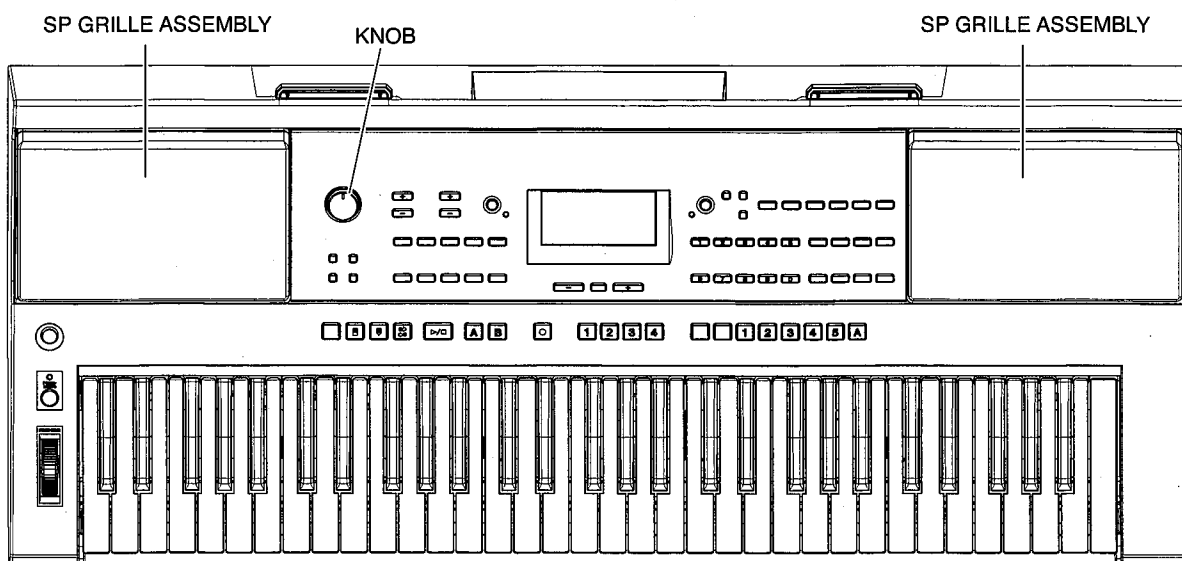
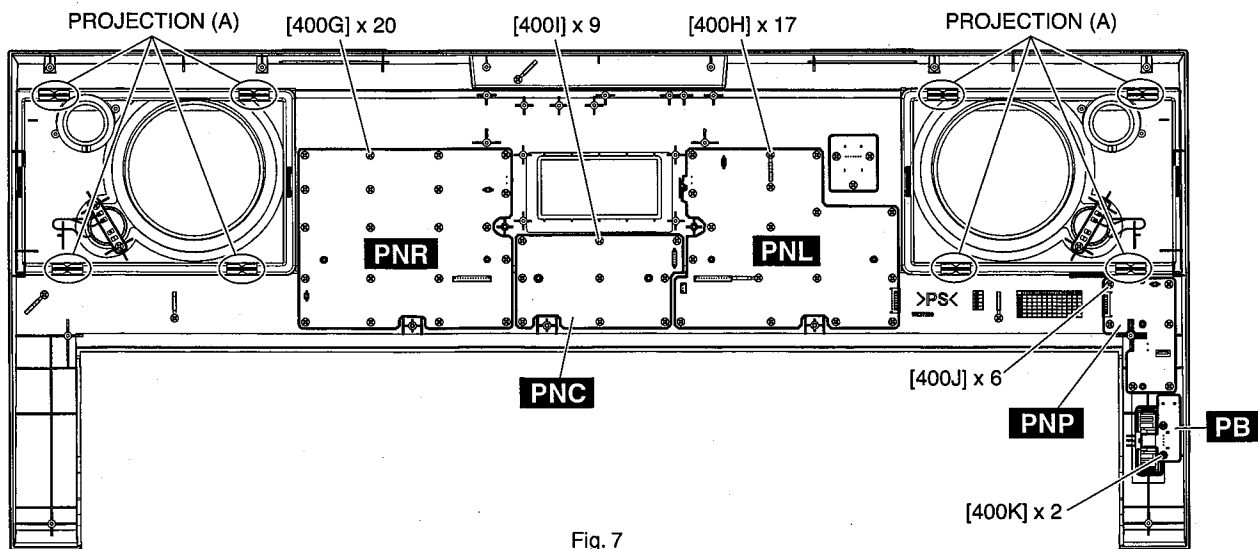

Fig. 1
Fig. 7
- 1-1. Remove the six (6) screws marked [80A], two (2) screws marked [90] and two (2) screws marked [100A]. The lower case assembly can then be removed. (Fig. 1)
- * *When installing the lower case assembly, first tighten the screw marked [90] and then the remaining screws. (Fig. 1)*
7-2. Set the four (4) projections [A] parallel to the groove in the upper case assembly and remove the SP grille assembly L. (Fig. 1, Fig. 7)
8-4. Remove the twenty (20) screws marked [400G]. The PNR circuit board can then be removed. (Fig. 7)
9-3. Remove the seventeen (17) screws marked [400H]. The PNL circuit board can then be removed. (Fig. 7)
10-5. Remove the nine (9) screws marked [400I]. The PNC circuit board can then be removed. (Fig. 7)
11-3. Remove the six (6) screws marked [400J]. The PNP circuit board can then be removed. (Fig. 7)
12-3. Remove the two (2) screws marked [400K]. The PB circuit board can then be removed with the wheel assembly attached. (Fig. 7)